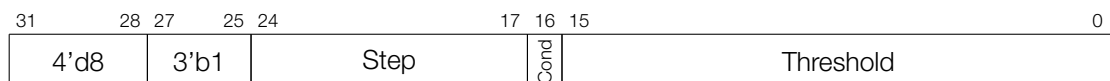

Figure 30-9. Instruction Type – JUMPR
**Operand Description** - see Figure 30-9